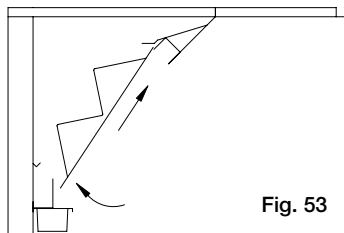

Fig. 53
1. Slide the top edge of the Second Stage filter into the top rear filter channel; Fig. 53.